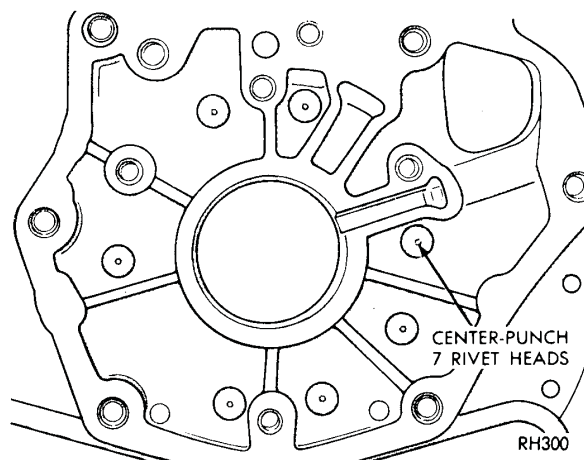

Fig. 36—Center Punch Rivet Heads (A-904T
(1) Remove four bolts securing output shaft support to rear of the transmission case. Tap support rearward out of the case with a soft-faced hammer.
(2) Center punch the rivets exactly in center of each rivet head (Fig. 36).
(3) Drill through each rivet head with a 3/8 inch drill. Be careful not to drill into the transmission case.